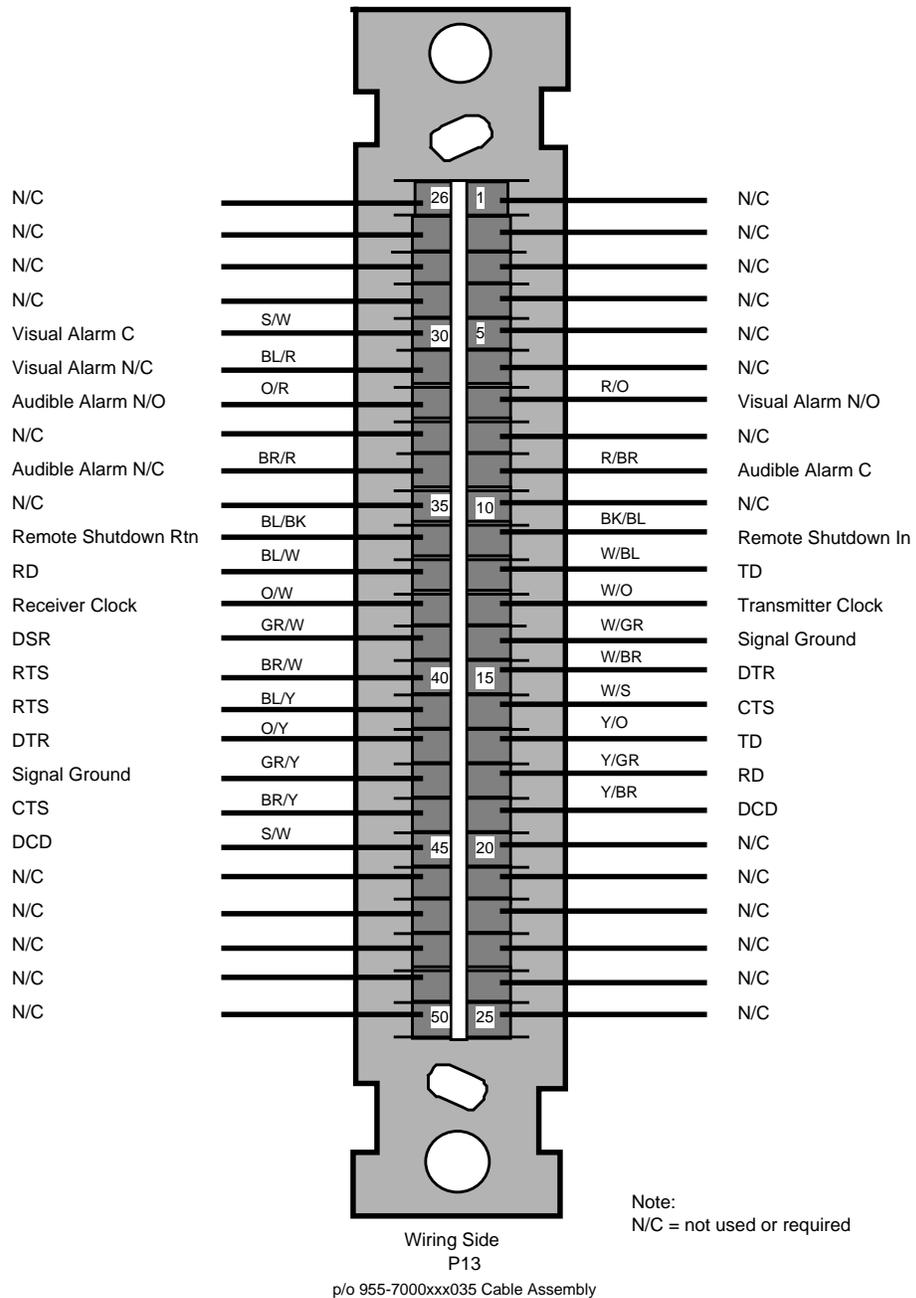

Figure 1-5. Test Head Digital Wiring P13
- Step 2:* Mate the P13 connector with J13 on the test head. See Figure 1-5.